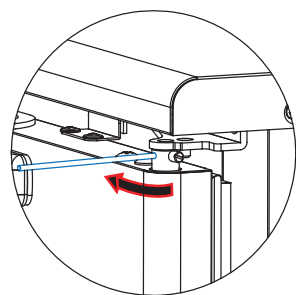

Fig 9-37
2. To remove the tension pin, slightly turn the stick in the direction of the arrow. Maintain the position of the steel stick by resisting the spring tension. (Fig 9-37)